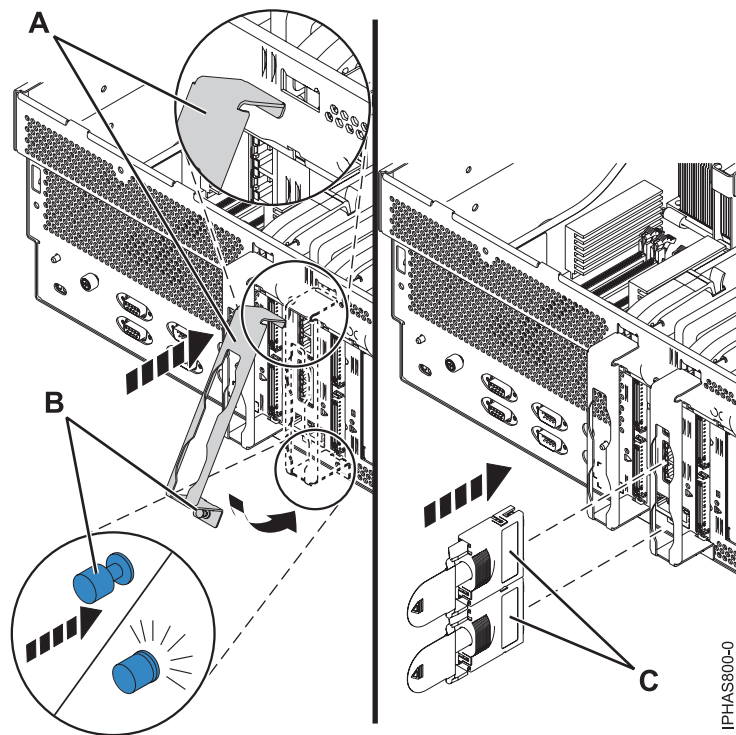

Figure 9. Cable retention bracket installation (8204-E8A shown)
14. Tilt the cable retention bracket (A), shown in Figure 9, to hook the tab at the top of the bracket into the slot in the assembly.
15. Swing the cable retention bracket towards the chassis and push the bracket fastener (B) into the chassis opening to secure the bracket.
19. Reconnect all power and signal cables to their respective connectors. Ensure that the GX adapter cables (C), shown in Figure 9 on page 19, are routed through the appropriate cable retention brackets to prevent excessive cable movement.